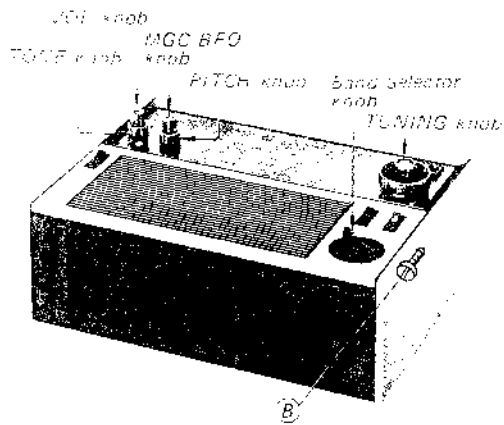

Fig. 2-2. Chassis removal
1. Pull out the six knobs, VOLUME, TONE, MGC BFO, PITCH, TUNING and Band Selector. (See Fig. 2-2.)
2. Loosen the screw marked **B** in Fig. 2-2.